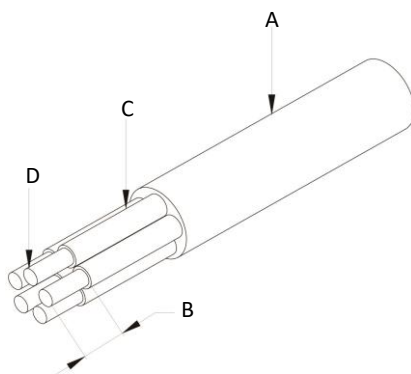

Figure 3-8 Strip off N/L1/L2/L3 cables
1) Strip off N/L1/L2/L3 cables as figure 3-8: